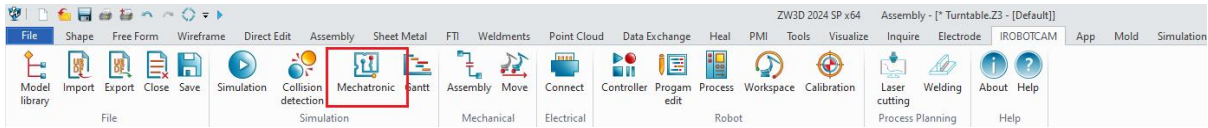

Figure 13-28: Mechatronic button
- Click the "Mechatronic" button.(Figure 13-28)